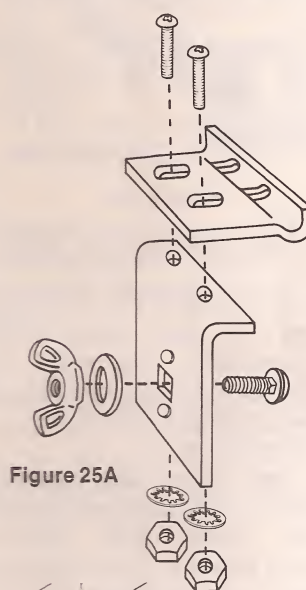

Figure 25A
- Assemble the guard bracket as shown in **figure 25A**. Do not tighten any of the screws and nuts at this time.